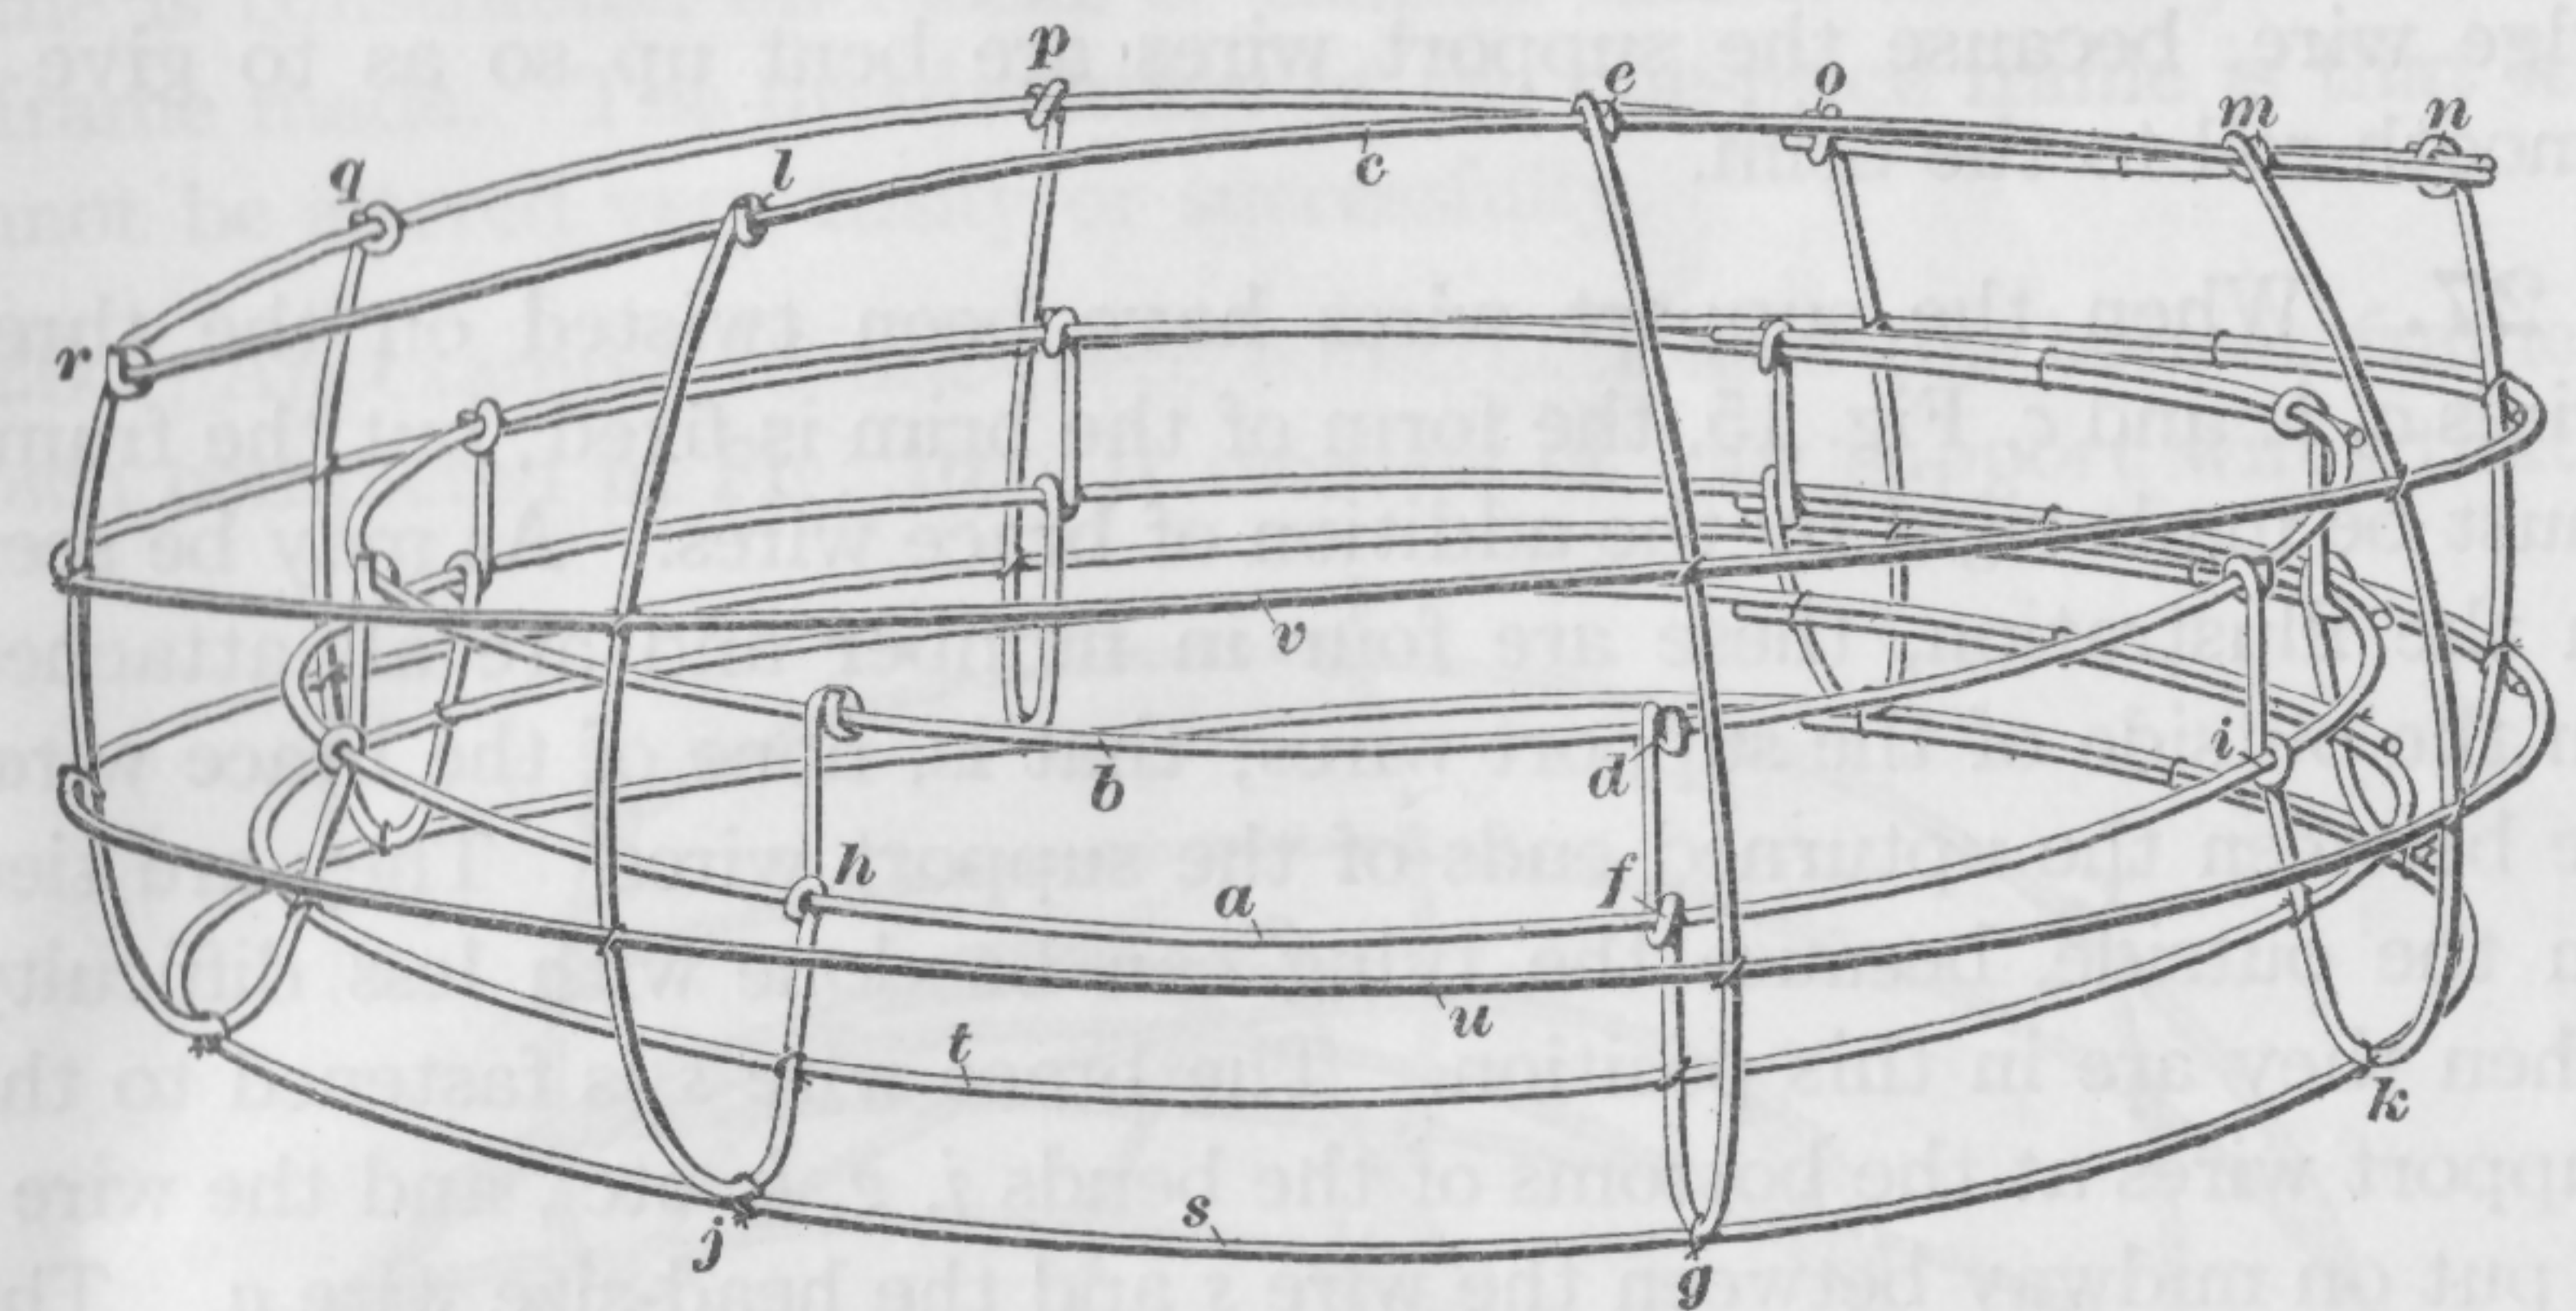

FIG. 15
24. The form of frame shown in Fig. 15 is called a **toque brim**. The head-size wire *a* and the top brace wire *b* are of the same size and shape and are  $\frac{3}{4}$  in. apart. To them are fastened eight support wires, spaced equally. These wires are carried downwards and outwards below the head-size wire to a distance of  $1\frac{1}{4}$  in., where they are bent and turned upwards. They are made long enough so that their upper ends are from 1 in. to 3 in. above the head-size wire, and the edge wire *c* is fastened at the ends of the support wires. To make the brim higher at one side than at the other, the support wires are made longest at the points where the greatest height is desired. To outline the method of making a brim of this form, complete directions and actual measurements will be given; but it must be remembered that these dimensions will produce a frame of a certain size. If a different size is desired, or if it is desired to alter the height or
25. The head-size wire *a*, Fig. 15, is 24 in. around and is made in exactly the same manner as the head-size wires of the brims already described. The top brace wire is made like it and each wire is then divided into eight equal parts for the attachment of the support wires. The longest support wire is that which is fastened to the top brace wire at *d* and to the edge wire at *e*. The length *df* is  $\frac{3}{4}$  in., the length *fg* is  $1\frac{1}{4}$  in., and the height *ge* is  $4\frac{1}{2}$  in. If 2 in. is allowed at each end of the wire to allow it to be twisted readily around the top brace wire and the edge wire, the length of this longest support wire will be  $2 + \frac{3}{4} + 1\frac{1}{4} + 4\frac{1}{2} + 2 = 10\frac{1}{2}$  in. As wire is inexpensive, the eight support wires may as well be cut at the same time, and
27. When the support wires have been twisted on the three wires *a*, *b*, and *c*, Fig. 15, the form of the brim is fixed; but the frame must be made rigid by the addition of brace wires. As may be seen in the illustration, these are four in number and are all attached on the outside of the support wires; that is, none of the brace wires lie between the upturned ends of the support wires. They are tied on the outside, because the tying can be done with less difficulty when they are in this position. The brace wire *s* is fastened to the support wires at the bottoms of the bends *j*, *g*, *k*, etc., and the wire *t* is put on midway between the wire *s* and the head-size wire *a*. The wires *u* and *v* are so located that the part of each support wire from the bend to the edge wire is divided into three nearly equal parts. The divisions need not be exactly equal; the main point is to locate the brace wires so as to stiffen the frame to the best advantage and at the same time maintain the general shape. Care must be taken to put all the overlaps of these brace wires at the back of the brim. A toque brim of the dimensions given can be made with less than 9 yd. of wire.